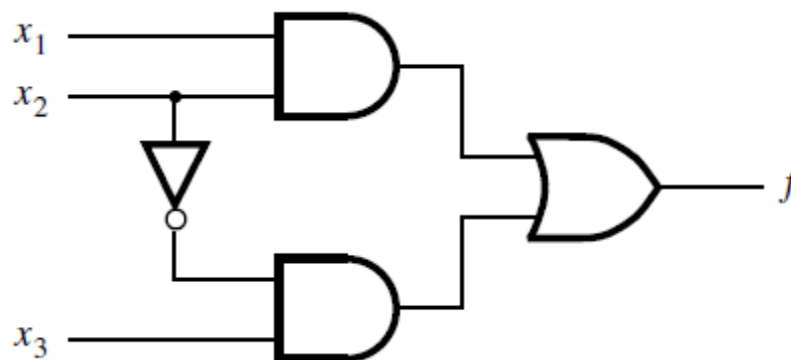

Fig.5.1: A Simple Logic Function
- The circuit in Fig.5.1 can be represented by the following Verilog code: